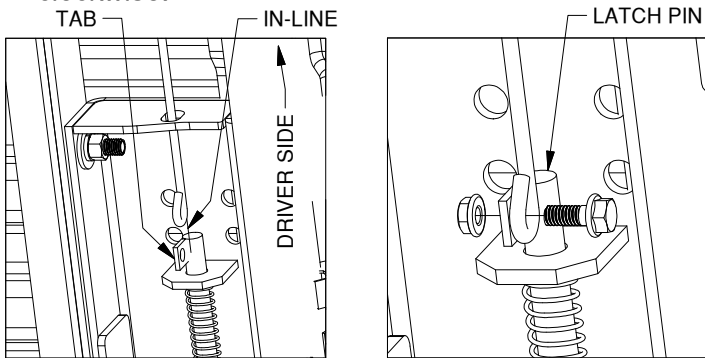

Figure D1: View under center section. Figure D2: View under center section.
1. **Insert the handle.** Install the latch pin release handle by inserting it through the slot in the end of the center section on the driver side of the truck. Align the handle eyelet with the square hole in the latch pin so the handle is in line with the latch as shown in Figure D1.